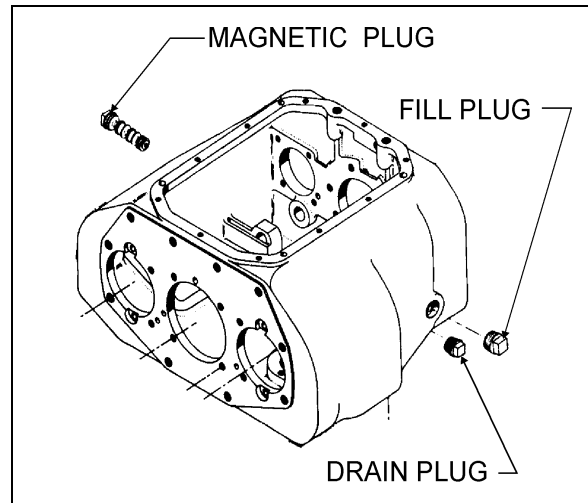

FIGURE 4: MANUAL TRANSMISSION PLUGS 07010
Unscrew the fill plug and check if the oil level is at plug thread level (Fig. 4).
1. Unscrew the drain plug (Fig.4) and allow the oil to drain into a suitable container.